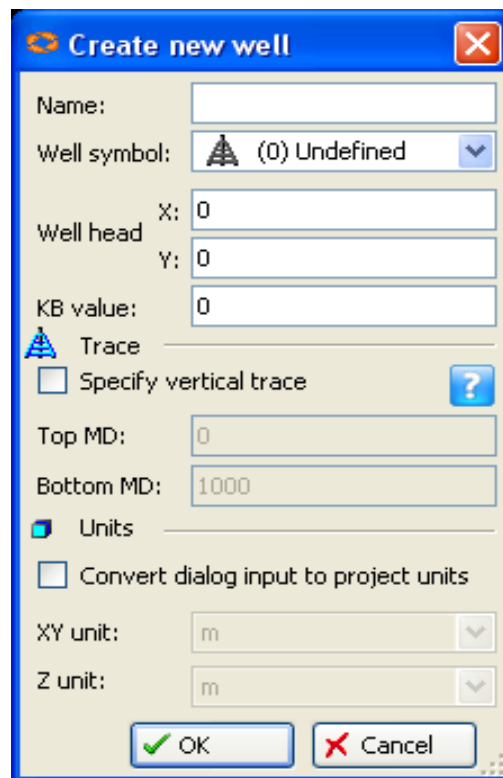

Fig. 4.11: The Create new well form
2. When creating a new well a dialog will appear as shown in Fig.4.11 asking for **name**, **coordinates**, **KB value** and **well symbol**. Trace and length of trace (vertical) may be defined. The input figures may be converted to project units if different. Enter desired information and click **OK**. These specifications may be changed later from the Settings window of the well or by using the Well Manager tool.